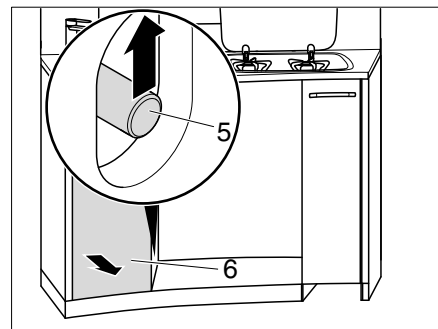

Fig. 129 Unlocking high kitchen drawers
- Grasp through the opening and slide the push rod (Fig. 129,5) upwards.